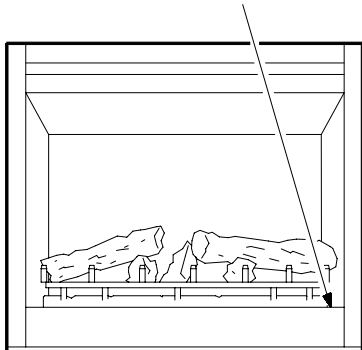

FIGURE 2
2. Access the manual controls, (remove glass doors if applicable) pull right hand edge of right hand steel curtain towards the center of unit. (FIGURE 2)